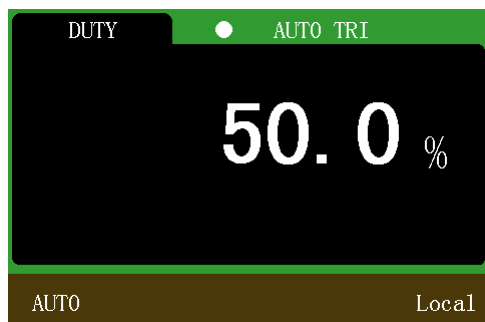

Figure 4-25 Measurement interface
1. Press  to select the duty cycle measurement function. The measurement interface is shown in Figure 4-25.